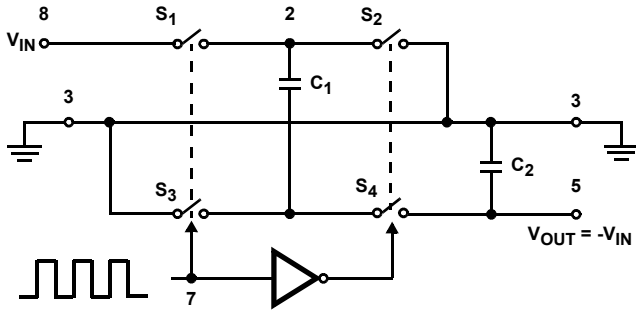

FIGURE 12. IDEALIZED NEGATIVE VOLTAGE CONVERTER
The ICL7660 and ICL7660A contain all the necessary circuitry to complete a negative voltage converter, with the exception of 2 external capacitors which may be inexpensive $10\mu F$ polarized electrolytic types. The mode of operation of the device may be best understood by considering Figure 12, which shows an idealized negative voltage converter. Capacitor C_1 is charged to a voltage, $V+$, for the half cycle when switches S_1 and S_3 are closed. (Note: Switches S_2 and S_4 are open during this half cycle.) During the second half cycle of operation, switches S_2 and S_4 are closed, with S_1 and S_3 open, thereby shifting capacitor C_1 negatively by $V+$ volts. Charge is then transferred from C_1 to C_2 such that the voltage on C_2 is exactly $V+$, assuming ideal switches and no load on C_2 . The ICL7660 approaches this ideal situation more closely than existing non-mechanical circuits.
In the ICL7660 and ICL7660A, the 4 switches of Figure 12 are MOS power switches; S_1 is a P-Channel device and S_2 , S_3 and S_4 are N-Channel devices. The main difficulty with this approach is that in integrating the switches, the substrates of S_3 and S_4 must always remain reverse biased with respect to their sources, but not so much as to degrade their "ON" resistances. In addition, at circuit start-up, and under output short circuit conditions ($V_{OUT} = V+$), the output voltage must be sensed and the substrate bias adjusted accordingly. Failure to accomplish this would result in high power losses and probable device latchup.
where V₁ and V₂ are the voltages on C₁ during the pump and transfer cycles. If the impedances of C₁ and C₂ are relatively high at the pump frequency (refer to Figure 12) compared to the value of R_L, there will be a substantial difference in the voltages V₁ and V₂. Therefore it is not only desirable to make C₂ as large as possible to eliminate output voltage ripple, but also to employ a correspondingly large value for C₁ in order to achieve maximum efficiency of operation.
The output characteristics of the circuit in Figure 13A can be approximated by an ideal voltage source in series with a resistance as shown in Figure 13B. The voltage source has a value of -V+. The output impedance (RO) is a function of the ON resistance of the internal MOS switches (shown in Figure 12), the switching frequency, the value of C1 and C2, and the ESR (equivalent series resistance) of C1 and C2. A good first order approximation for RO is: